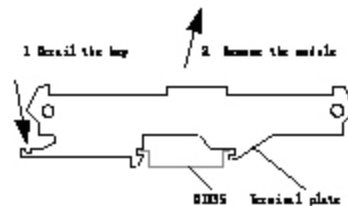

Figure 2-50 Disassembly
3. Pull the module out of 35mmDIN rail as shown in Figure 2-50.
4. Figure 2-50.